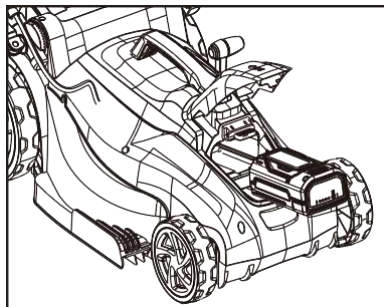

Fig. 8
1. Open the battery compartment cover and slide the battery to lock it into position (See Fig. 8).